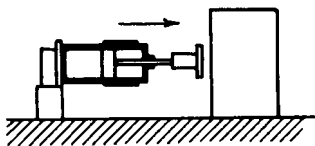

Fig. 4 A cylinder can be linked up directly to the load.
**Fig. 4** A rotary compressor pump has a link separating its suction and compression sides. The link is hinged to a ring which oscillates while it is driven by the disk. Oscillating action pumps the liquid in a continuous flow.